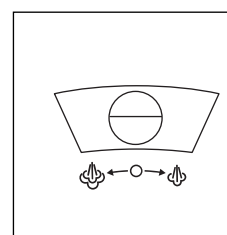

fig. 1
- Before filling the water tank, make sure the steam regulator is in the position ○ ("dry" position) (fig. 1). Make sure the power cable is unplugged from the mains socket.
- Plug in the iron and select the temperature, if there is water in the tank, position the steam regulator on the dry position (fig. 1).
- Position the steam regulator on the dry position (fig. 1).